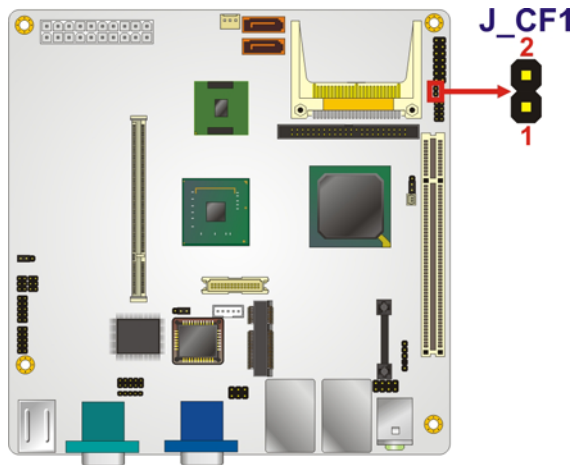

Figure 5-5: CF Card Setup Jumper Location
- Jumper Location:** See Figure 5-5
The CF Card Setup jumper location is shown in Figure 5-5.